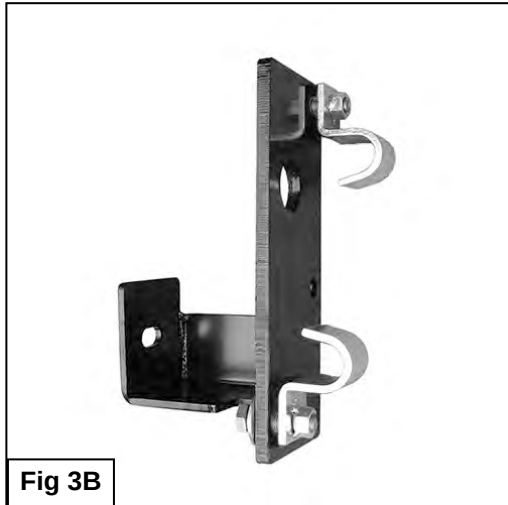

Fig 3B
5. Select (1) Hook Plate. Hook the Hook Plate over the bottom edge of the frame, (**Figure 2B**). Repeat **Step 4** to attach the bottom of the rear Bracket to the Hook Plate, (**Figures 3B & 4**). **NOTE:** Make sure the clearance holes in the rear Mounting Bracket are lined up with the factory fasteners in the frame. **IMPORTANT!** Adjust the location of the bottom Hook Plate away from the emergency brake cable. Do not tighten hardware at this time.